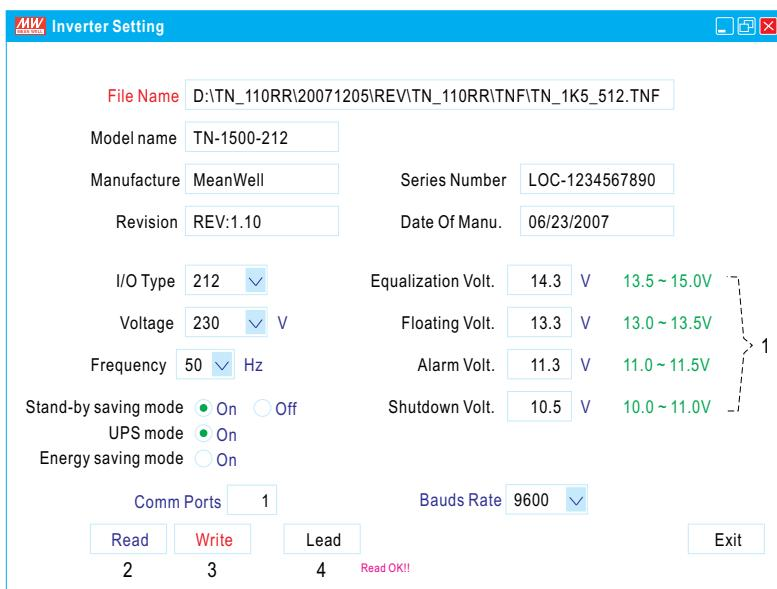

Figure 3
1. Setting: Adjustment for output voltage, charging related voltage, frequency, and operation mode. Please refer to Figure 3 for details.